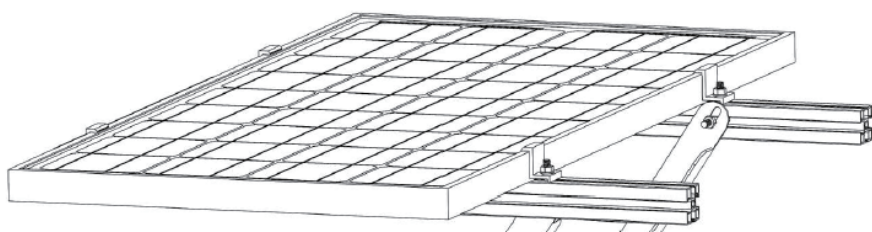

Figure 7
- E. Once End Clamps (J) and in a position to hold the panel, slide the panel onto the bracket, slide the End Clamp over the edge of the panel so that the surfaces are flush as shown in Figure 7.
- F. Fasten the End Clamp with a Nut (K) and Washer (H).